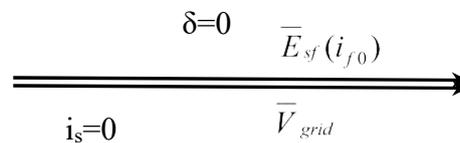

Figure 8-15. Phasor diagram at the connection of the synchronous machine to the grid
5. the current, now, is 0 (no power flow and $\delta=0$) (see Figure 8-15)